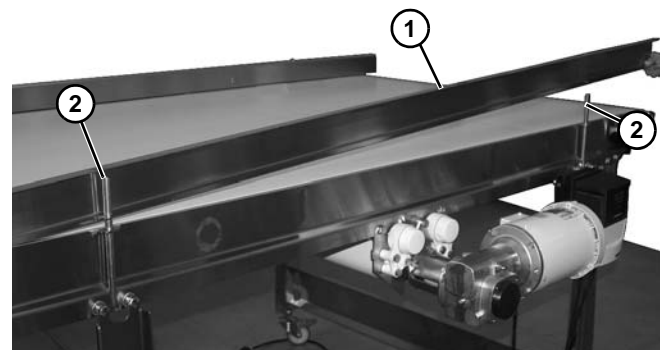

Figure 59
3. Install guide (**Figure 59, item 1**) onto the guide posts (**Figure 59, item 2**).